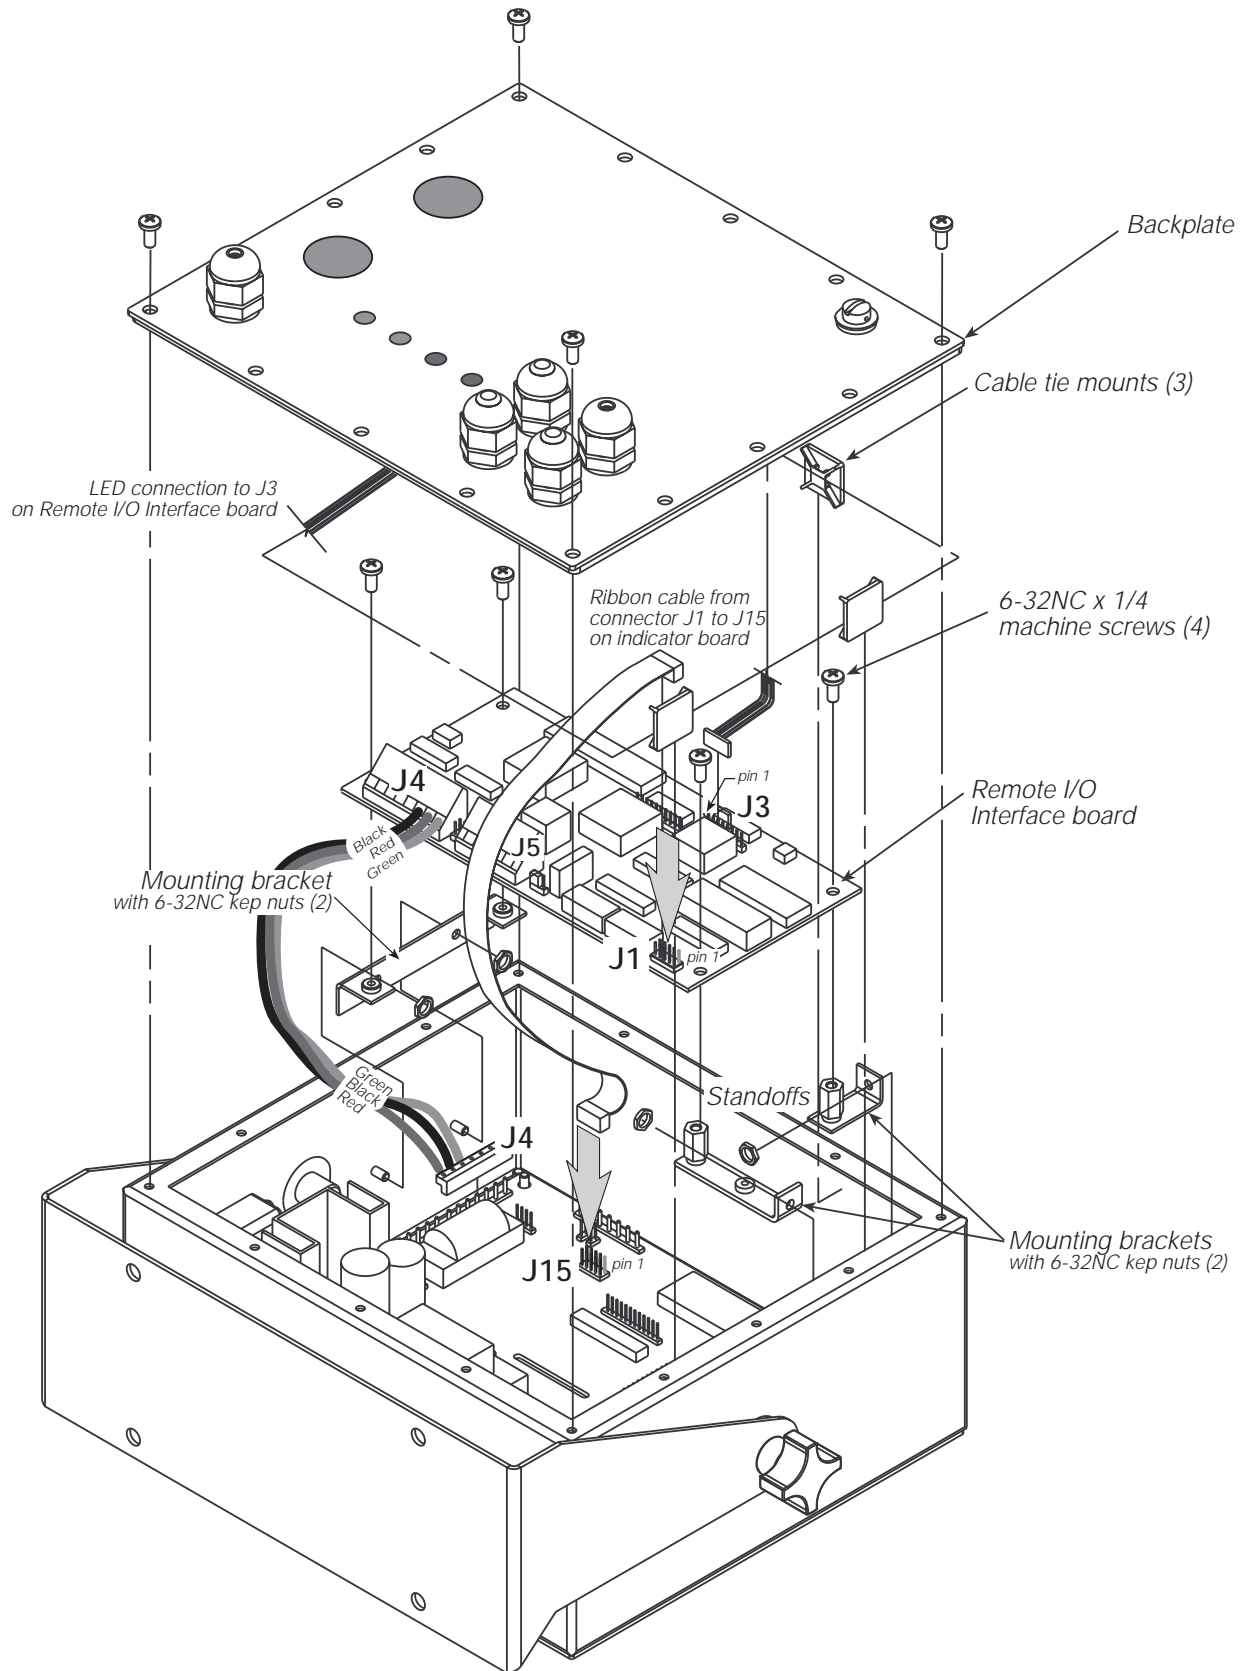

Figure 2-4. Remote I/O Interface Board Installation and Wiring
8. Use the four 6-32NC keps nuts supplied to mount the three brackets as shown in Figure 2-4 on page 4.
9. Attach three cable tie mounts to the inside of the indicator enclosure as shown in Figure 2-4.
10. Use cable ties to secure cable from the backplate LED annunciators to the Remote I/O Interface board. Allow enough slack in the wires to reach the location of connector J3 (see Figure 2-4).
11. Remove connector J4 from the header on the indicator CPU board. Connect the black, red, and green wires to the connector as shown in Table 2-1 and in Figure 2-4, then reinstall J4 on the indicator board.
12. Plug 10-pin ribbon cable into connector J15 on the indicator CPU board as shown in Figure 2-4. Ensure connector is oriented as shown in the drawing, with red wire of ribbon cable toward center of board.
13. Use the four 6-32NC x 1/4 machine screws supplied to mount the Remote I/O Interface board on the brackets as shown in Figure 2-4.
15. Plug ribbon cable connector from J15 on the indicator CPU board into connector J1 on the Remote I/O Interface board. Ensure cable is oriented as shown in Figure 2-4, with red wire of ribbon cable attached at pin 1 on both connectors.